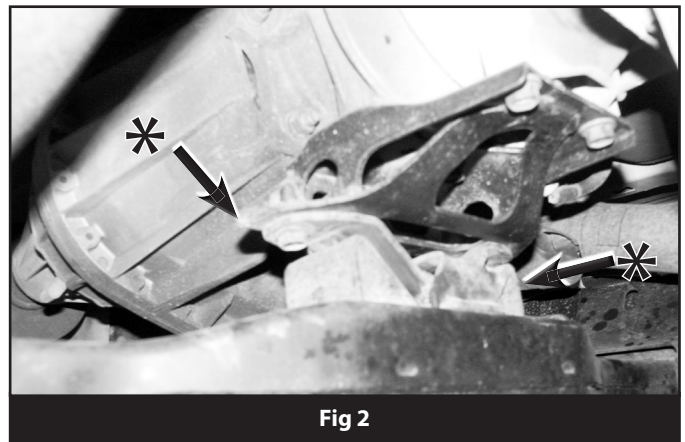

Fig 2
7. Remove the four bolts that hold the main steel transmission mount to the transmission. Remove the mount from the vehicle. (Figure 2)